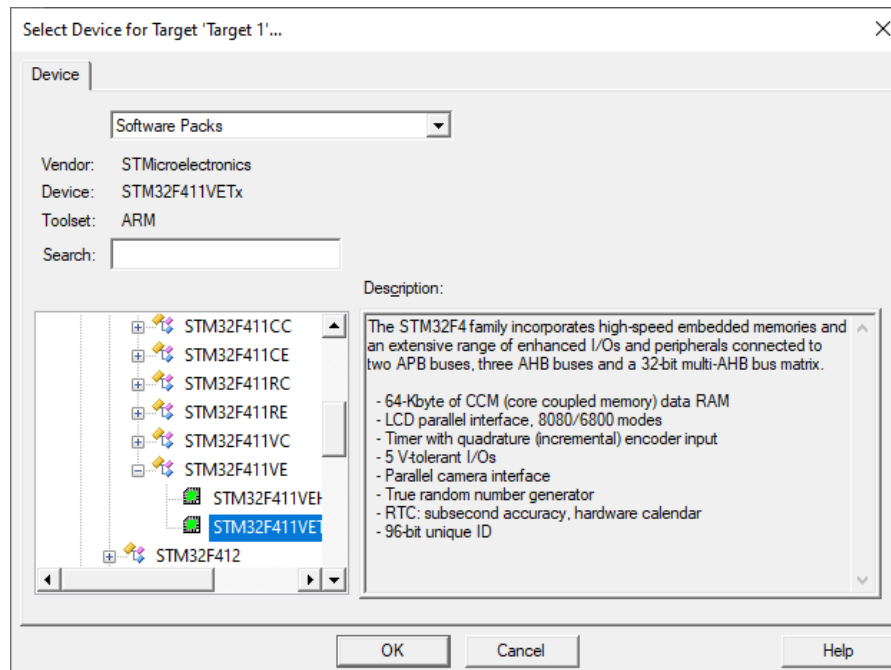

Figure 2. Select the STM32F411VET microcontroller.
2. In the *Select Device for Target* window (Figure 2), select microcontroller **STM32F411VET**.